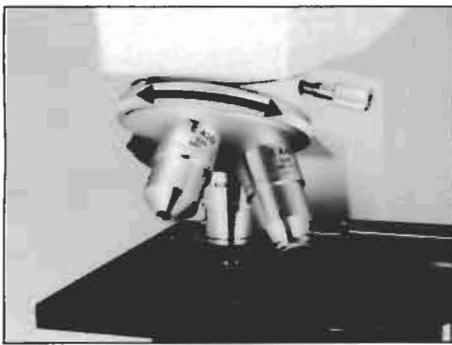

Fig. 14
- 1) Swing in the objective to use. (Fig. 14)